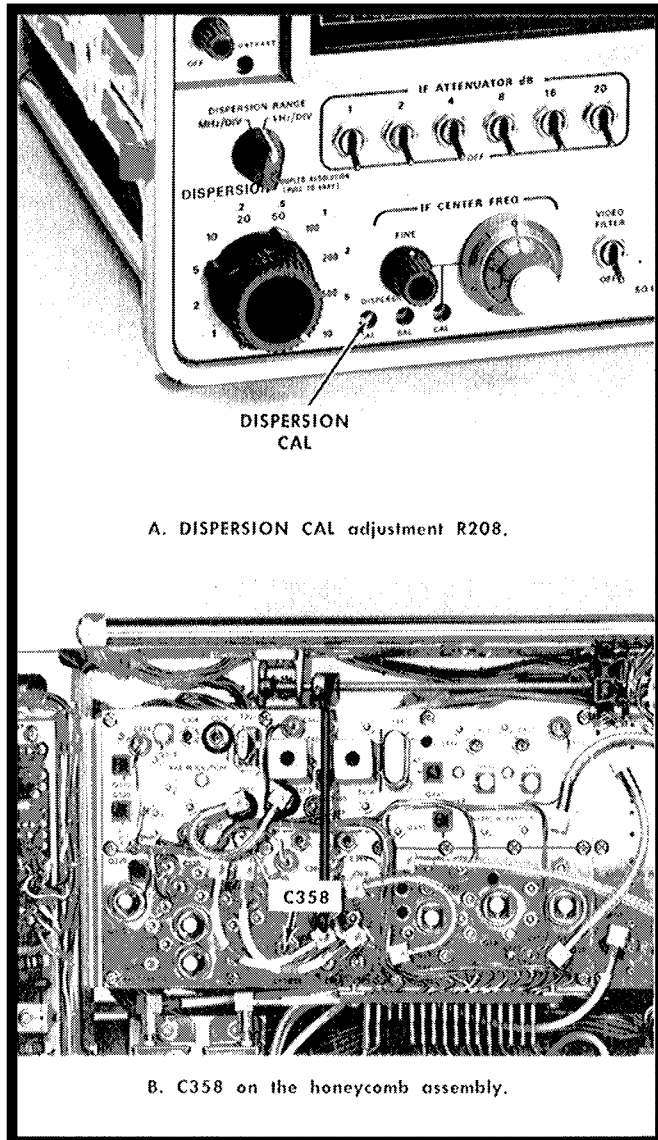

Fig. 6-22. Dispersion calibration adjustments.
d. Adjust the DISPERION CAL R208 (Fig. 6-22) for 1 marker/division over the center 8 graticule divisions, then adjust C358 for display linearity.